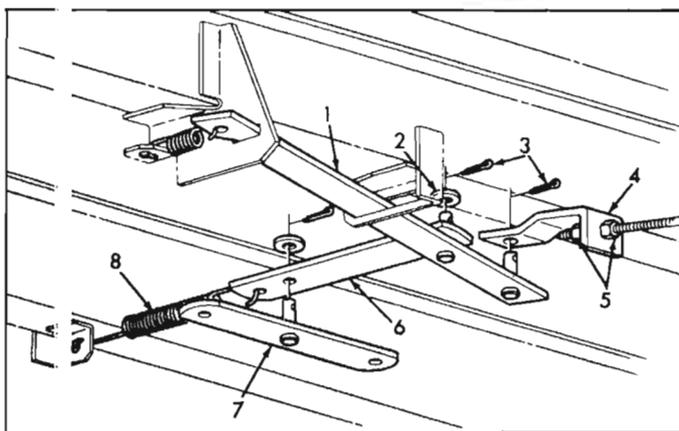

Fig. 5-31—Equalizer Assembly
5. Thread check nut on cable end stud and insert stud in idler linkage clevis. Install retaining nut on end stud. Adjust position of nuts so that distance between end of stud and center of idler linkage clevis pin is approximately 1½". Leave nuts "finger tight" (Fig. 5-31).